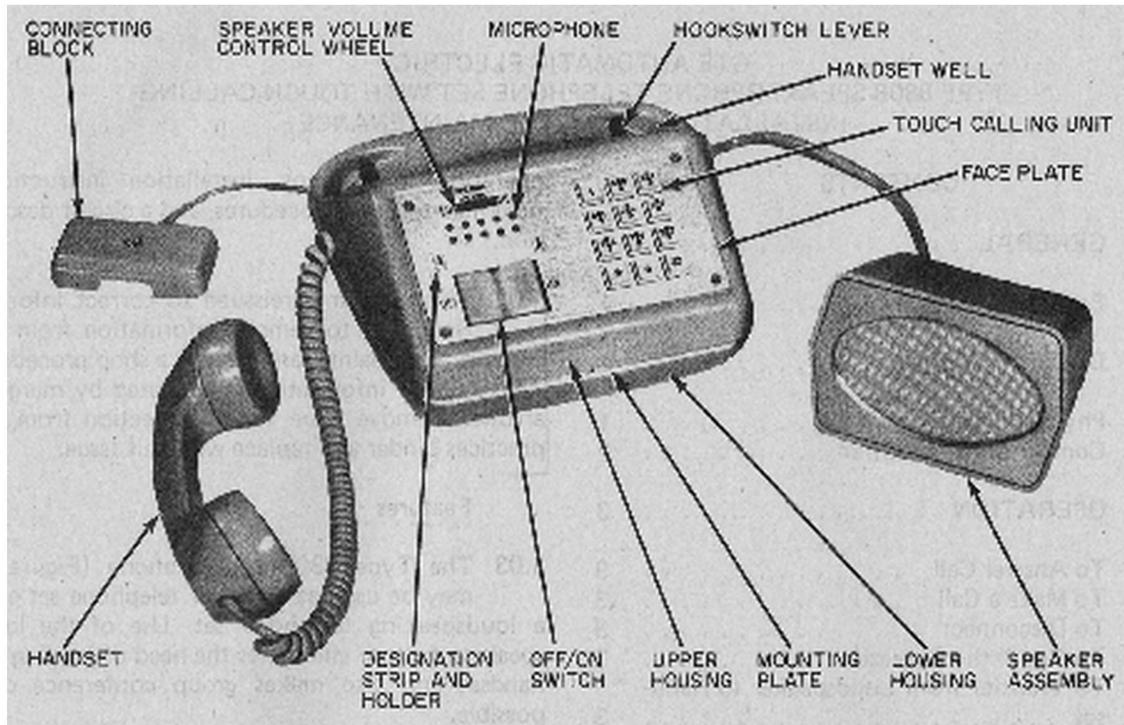

Figure 1. GTE Automatic Electric Type 880B Speakerphone Equipped with a Touch Calling Unit.
1.03 The Type 880B speakerphone (Figure 1) may be used as a regular telephone set or as a loudspeaking telephone set. Use of the loudspeaking feature eliminates the need of holding the handset and also makes group conference calls possible.